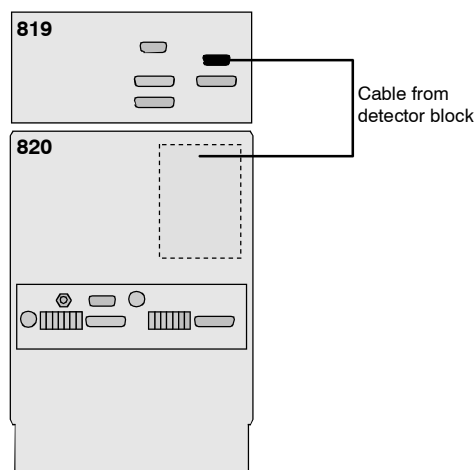

Fig. 8: Connection Detector 819 – 2.820.0X10/2.820.0X30
- Plug the gray connecting cable permanently attached to the detector block into connection **6** „Detector Block“ of the 819 IC Detector and fasten to the instrument by tightening the screws in the cable connector (see *Fig. 8*).